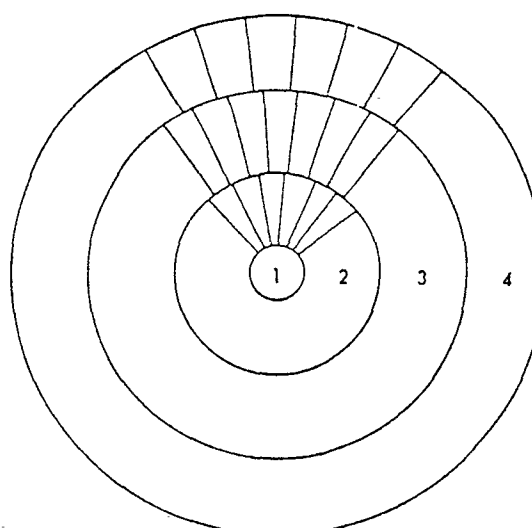

FIG 3
4.1 Cellular glass should be applied to the dished ends of tanks and vessels in a pattern similar to that shown in Figure 3. Blocks must be cut to conform to the curvature of the tanks and carefully mitered together with butt joints staggered. Blocks are built out radially from the circular piece shown as 1 in Figure 3. Each block shall be coated with an adhesive on all contact surfaces with the insulation and the equipment. All chipped edges or imperfections shall be smoothed with Seam Filler, Code 808. Upon completion of the application, all bands should be checked for tightness and drawn up where necessary. Subsequent layers are applied in the same manner except that all joints are staggered with the preceding layer.